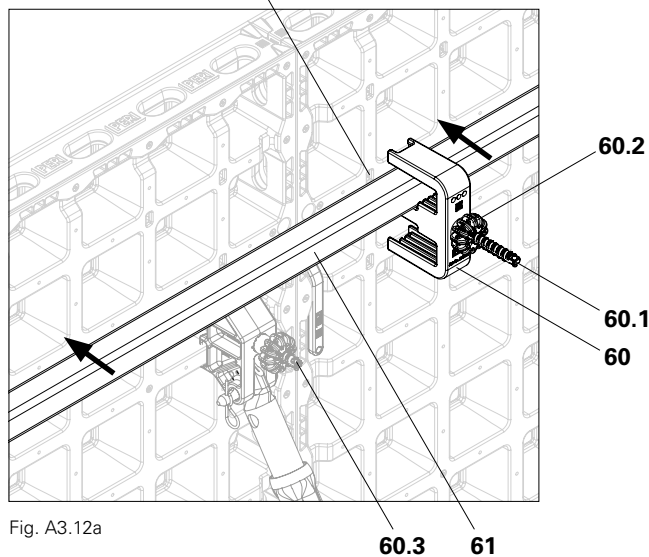

Fig. A3.12a
1. Position two DUO timber connectors (60) onto a 50 x 50 mm metal profile (61).
2. Hook the DUO timber connector (60) into a connection point (10.3) of the DP panel with a cross tie bolt (60.1) and turn the cross tie bolt (60.1) through 90°.
3. Tighten the DUO timber connector (60) with the DW 15 grip (60.2). (Fig. A3.12a)